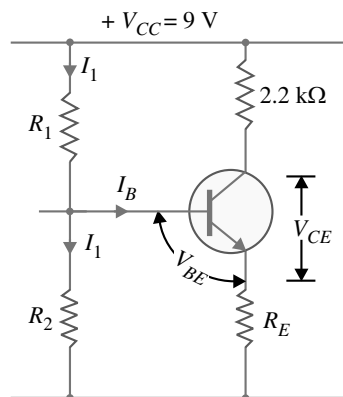

Fig 7.35
**Example 7.30.** In the circuit shown in Fig. 7.35, the operating point is chosen such that  $I_C = 2 \text{ mA}$ ,  $V_{CE} = 3 \text{ V}$ . If  $R_C = 2.2 \text{ k}\Omega$ ,  $V_{CC} = 9 \text{ V}$  and  $\beta = 50$ , determine the values of  $R_1$ ,  $R_2$  and  $R_E$ . Take  $V_{BE} = 0.3 \text{ V}$  and  $I_1 = 10 I_B$ .